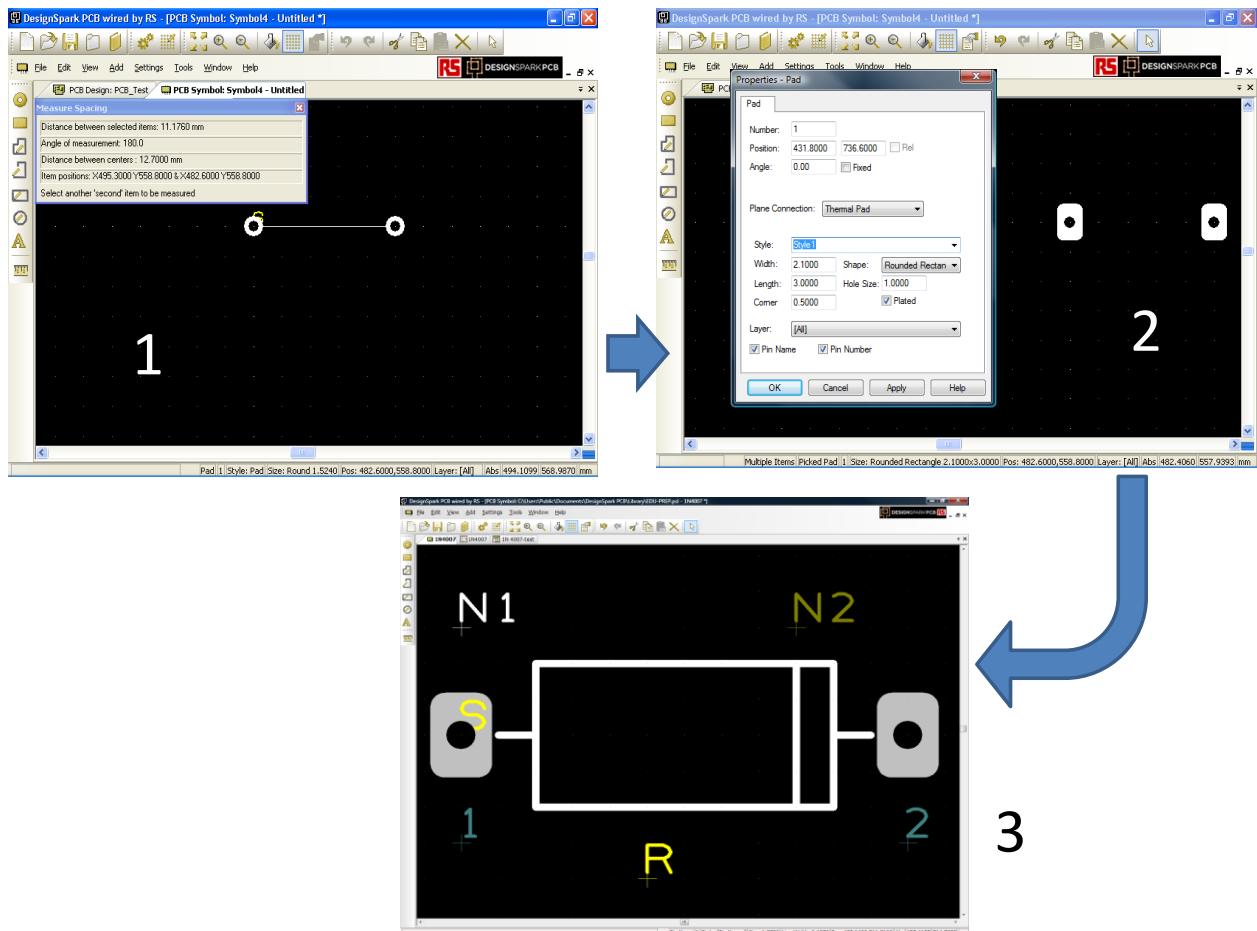

Figure 6-27: PCB Footprint Library Creation – Diode
32. Our 1N4007 diode device has a pin spacing of 500thou or 12.7mm. We therefore place the pads 12.7mm apart, which is 5 grid positions (2.54 x 5) as shown in Figure 6-27 (image 1).
35. Our final layout shows the Symbol Origin (S), pin numbers (1 & 2), the Pin Names (N1 & N2) and the Reference Origin (R) as shown in image 3.